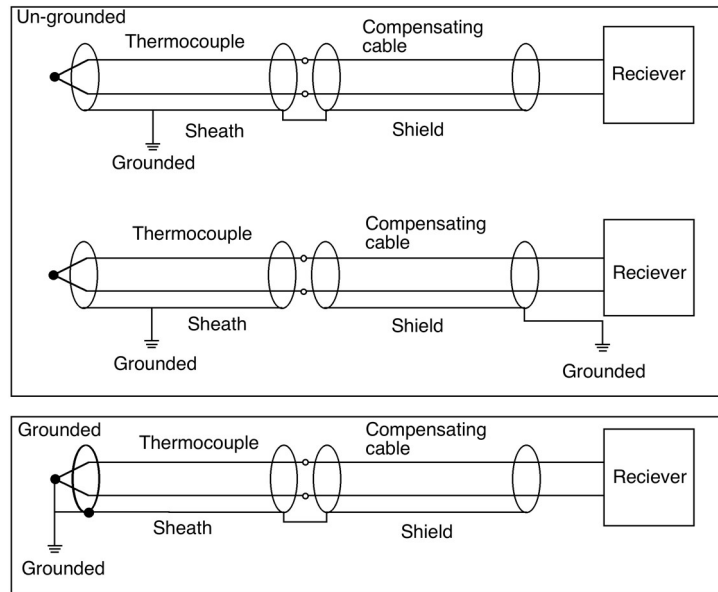

Fig.8 Grounding of Shield
- When a grounding conductor is available at the end of the lead wires the sheath and shield are insulated to avoid 2-point grounding since grounding is normally done on the part of the instrument. As shown in the figure of the grounding type of Fig. 8, a shield recommends you the method of grounding in the same part as grounding of a thermocouple.